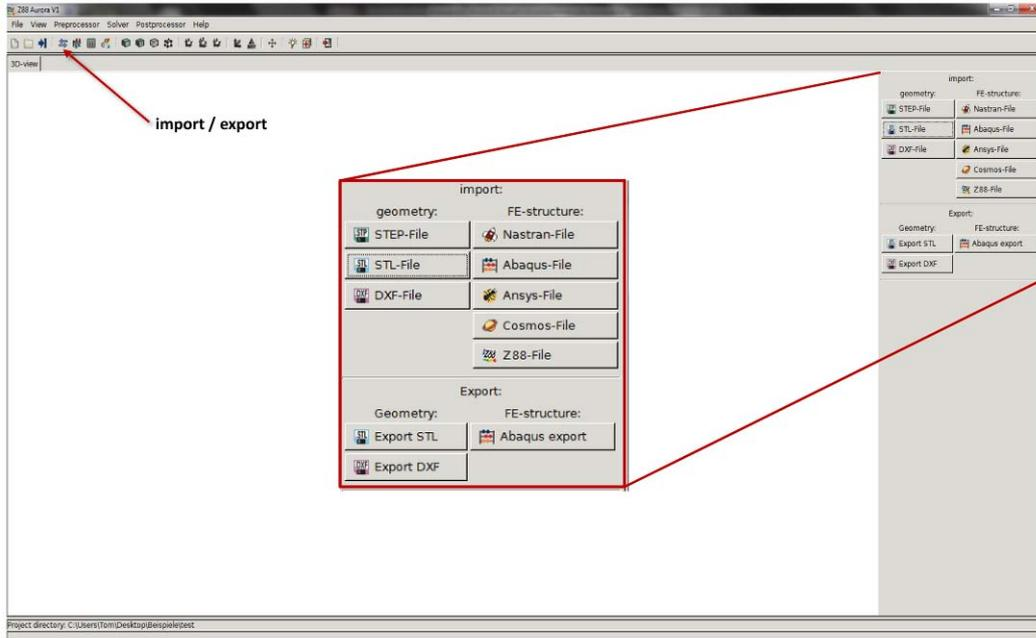

Figure 14: Import and export via the toolbar
2. Via the toolbar (Figure 14)